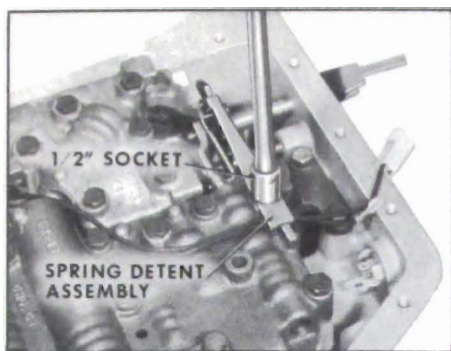

Figure 5-348
9. Before installing spring detent assembly note routing of solenoid wires. Install spring detent assembly. Torque bolt to 8-12 ft. lbs. center spring over detent plate. See Figure 5-348.